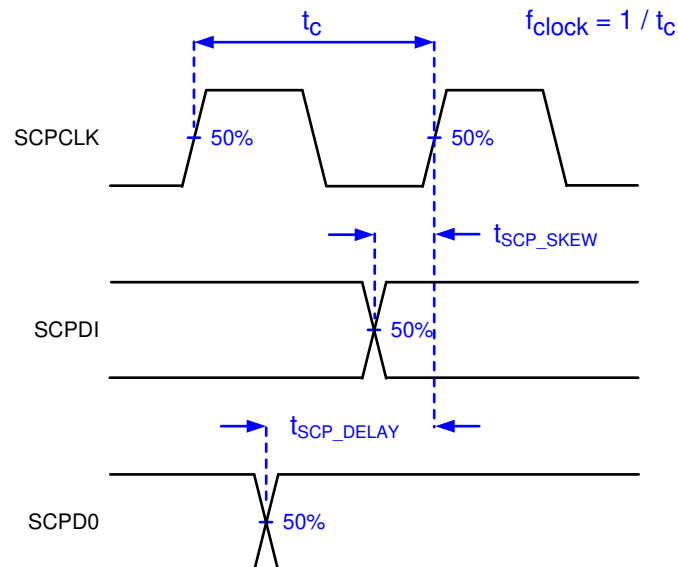

图 6-3. Serial Communications Bus Timing Parameters
- (5) PWRDNZ input pin resets the SCP and disables the LVDS receivers. PWRDNZ input pin overrides SCPENZ input pin and tri-states the SCPDO output pin.
- (6) The SCP clock is a gated clock. The duty cycle shall be 50% \pm 10%. SCP parameter is related to the frequency of DCLK.
- (7) Refer to 图 6-3.
- (8) SCP internal oscillator is specified to operate all SCP registers. For all SCP operations, DCLK is required.
SERIAL CONTROL BUS TIMING PARAMETERS (See 图 6-3 and 图 6-4)